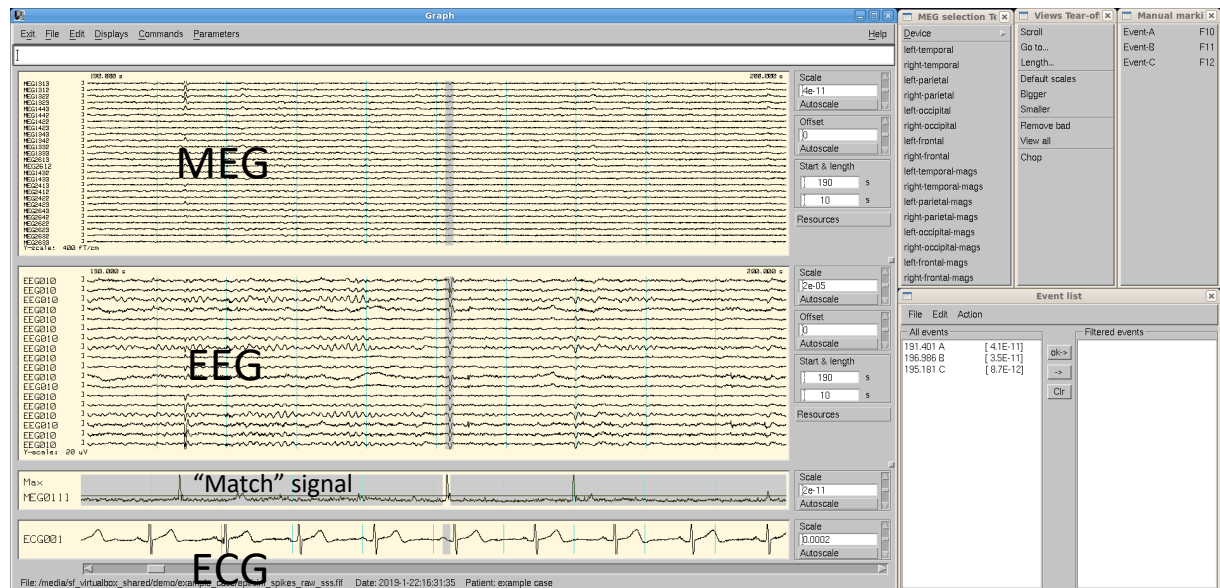

Figure 29: Graph epilepsy-3.3 setup showing one selection of MEG data, EEG and a match signal channel with threshold and ECG. Tear-off menus is also shown.
- Open **Commands -> Search -> Event lists** and detach tear-off menus **Displays->Views**, **Displays -> MEG selection**, and **Commands -> Search -> Manual marking** by clicking the dashed line in the list so that it will remain open and on top of screen (Figure 29). Note that all the menus that have the dashed line work the same way.